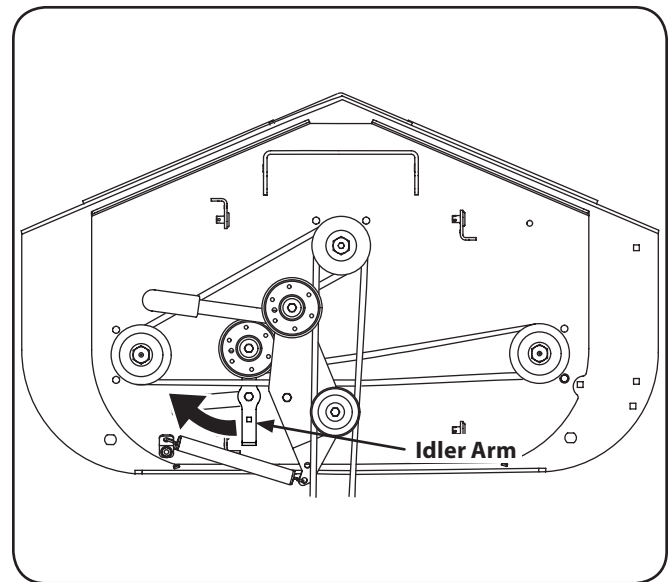

Figure 7-3
3. Using a $\frac{1}{2}$ " socket breaker bar or socket ratchet insert the male end into the $\frac{1}{2}$ " square opening in the lower idler arm assembly and pull the idler arm clockwise. See Fig. 7-3. While holding the idler arm back, loosen the deck belt from the pulley and slide the belt away from the pulley.